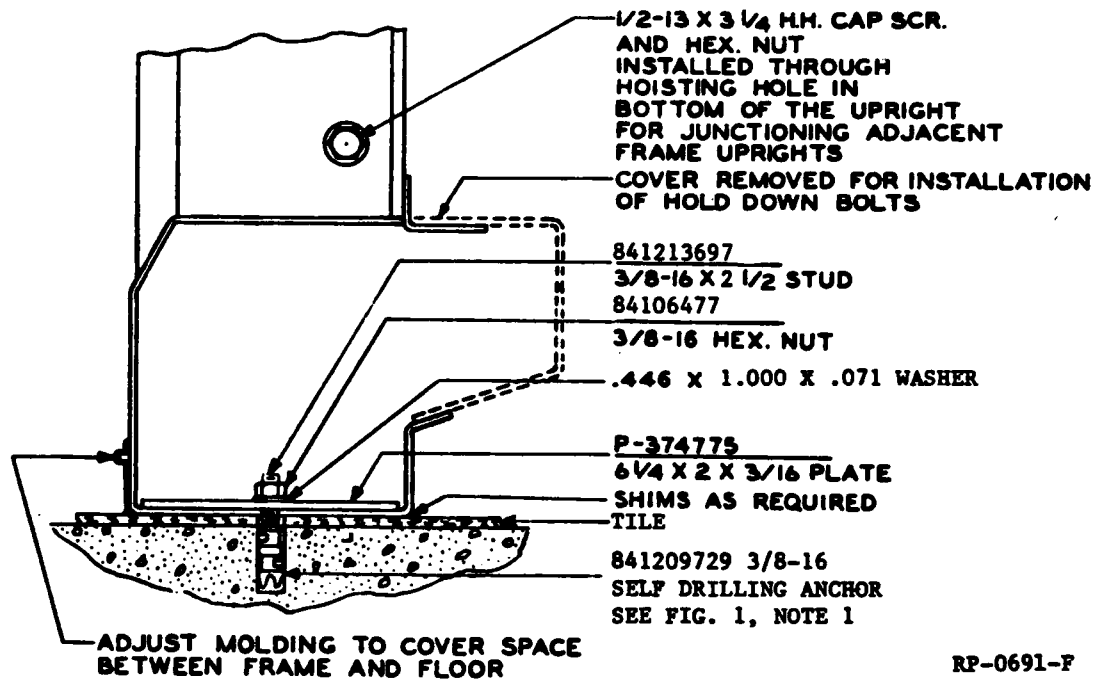

FIG. 7A FASTENING SHEET METAL BOX-TYPE FRAMES (NO. 5 CROSSBAR) TO FLOORS
5.35 For the end frame of a lineup of sheet metal box type frames and for those intermediate frames which have to be anchored to the floor, locate the self-drilling anchor 7" from either end of the frame. Figure 7A shows the assembly of self-drilling anchor, studs and hold-down plates in the frame.
(BSP 800-614-154 Fig. 7A)